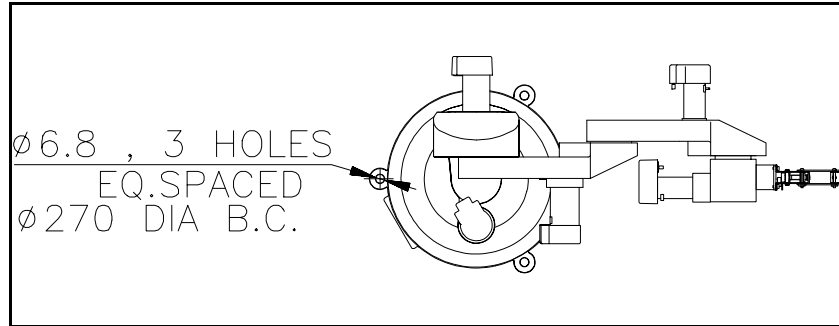

Figure 3-2: Robot Base
2. Fasten the base of the robot arm to the work surface with 3 bolts, as shown in Figure 3-2.